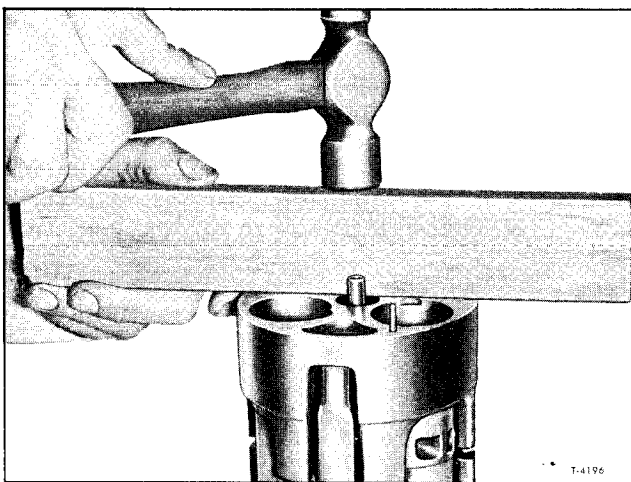

Figure 55—Assembling Cylinder Halves
10. Align the rear head casting with bores, suction passage, discharge cross-over holes, and dowel pins. Tap into place, using a plastic block and mallet (figure 55).